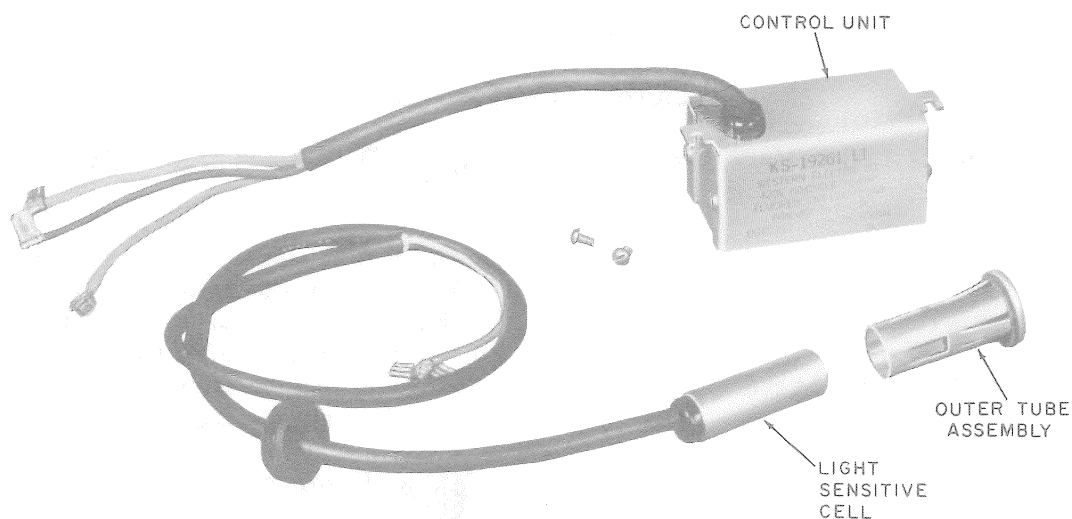

Fig. 1—KS-19261, List 1 Light Control Unit
2.03 The KS-19261, List 1 light control unit (Fig. 1) is used in outdoor booths equipped with a KS-19207 light and blower unit.